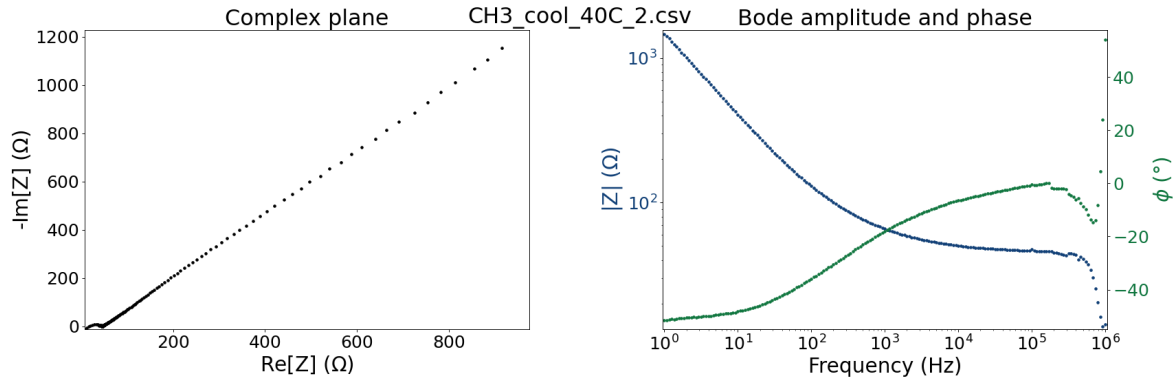

Figure 15: Impedance spectrum of $\text{RbOH} \cdot x\text{H}_2\text{O}$.
2. Go to **File>Load data...** and navigate to the `examples` folder (`path_to_decim/DECiM/examples`). Go to `RbOH_xH2O`. Change the **Text files** option to **All files** and open the `CH3_cool_40C_2.csv` file. The data should now appear in the main DEC*i*M window, looking like Figure 15.